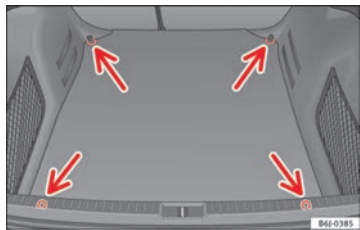

Fig. 98 Location of fastening rings in luggage compartment.
- Use the fastening rings to secure the load ⇒ Fig. 98 (arrows).